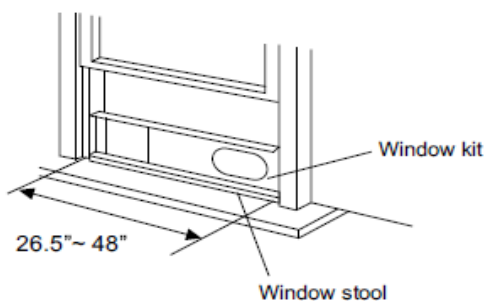

Fig. 11
3. Adjust the length of the window bars to the same length and width of the opening of the window. Cut the window piece if necessary to fit the length of your window. Fig. 11.